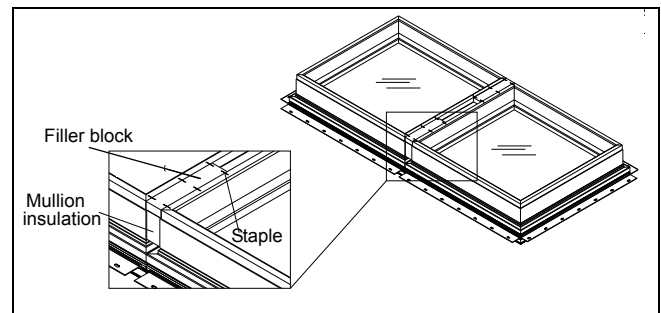

Figure 21
3. Insert mullion insulation between side jambs. Insert mullion filler blocks at each end of mull cavity. Attach blocks using 1/2" x 1/2" 16 gauge staples spaced every 4" (102). See figure 21.